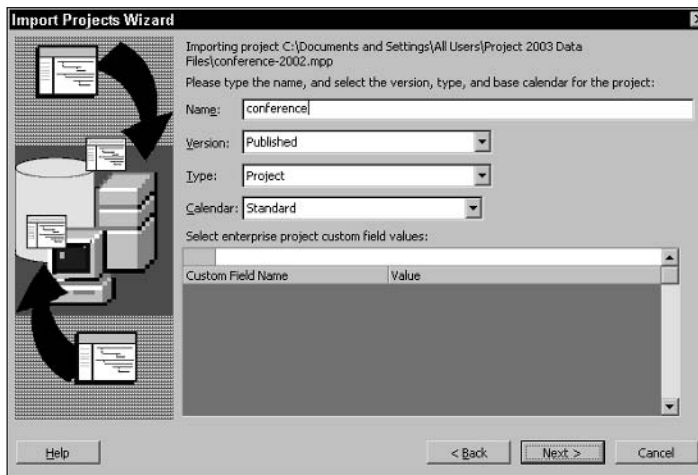

Figure 19-35: Establish Project Server settings for the project that you're importing.
5. On the next screen of the wizard, shown in Figure 19-35, select the name, version, type, calendar, and enterprise project custom field values for the project that you're importing to the Project Server database. To set enterprise custom field values, click in the Value column, and a list box appears. When you finish, click Next.